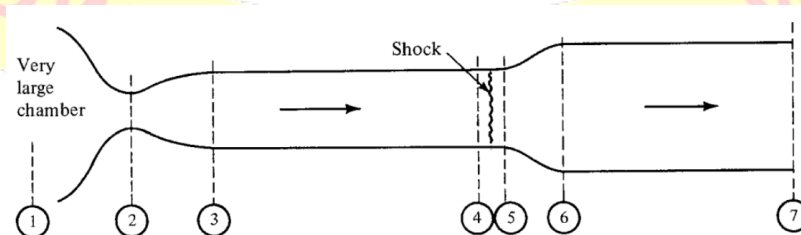

Figure 1
- There is no friction in the system shown in Figure 1 except in the constant-area ducts from sections 3 to 4 and from 6 to 7. Sketch the T–s diagram for the entire system. Assume adiabatic flow throughout the system.